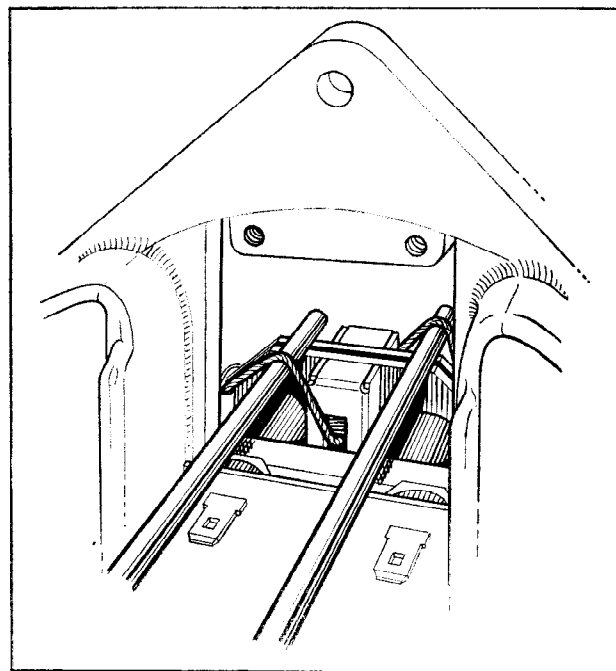

Fig. 4
- (iv) Remove the brush inspection shield. Lift the brushes into their holders and secure them in this position, by introducing a wedge of circular section within each loop formed by the flexible connectors (Fig. 4).
- (iii) Push the brushes up into their holders and secure them in that position by introducing a wedge of circular section within each loop formed by the flexible connectors (see Fig. 4).